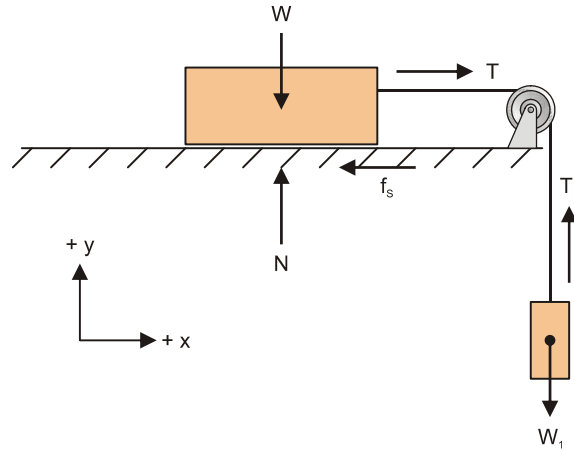
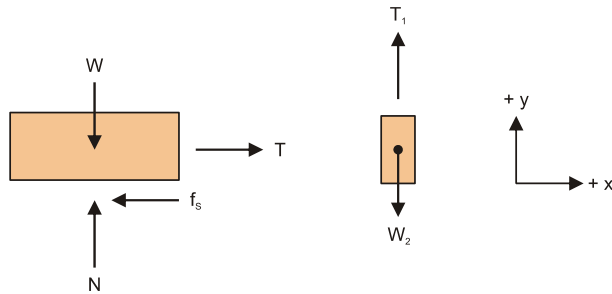
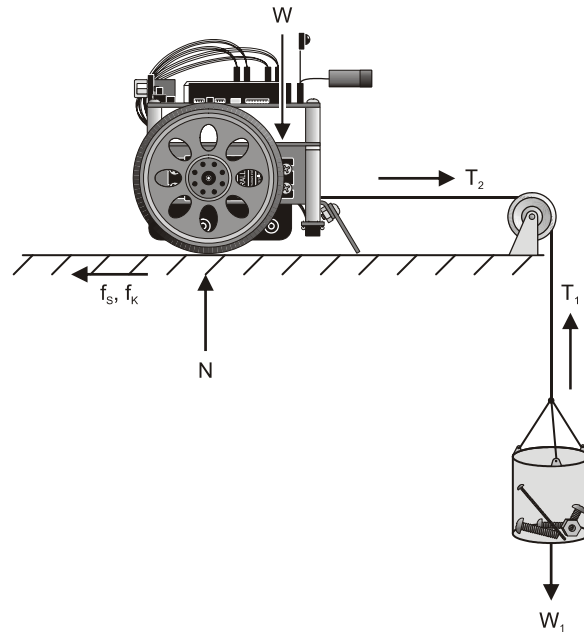

Figure 1-11
Figure 1-12
Figure 1-14
Problem: It took a 700 g mass (W_1) hanging from this pulley system shown in Figure 1-11 to make a 2100 g mass (W_2) start to slide. Find the coefficient of static friction, μ_s .
Solution: If the system is exactly at $T = f_{s, \text{Max}}$, nothing is moving yet. From Figure 1-11, we know that T and T_1 are equal and opposite:
The next step is to draw separate free body diagrams for each object (see Figure 1-12). The sum of the forces for the hanging block should add up to zero:
Figure 1-14 shows the setup you will use to test frictional forces.
- ✓ Build the system shown in Figure 1-14.
- ✓ Draw free body diagrams and write the equations for Figure 1-14. Use the problem and solution with Figure 1-11 and Figure 1-12 as your guide.